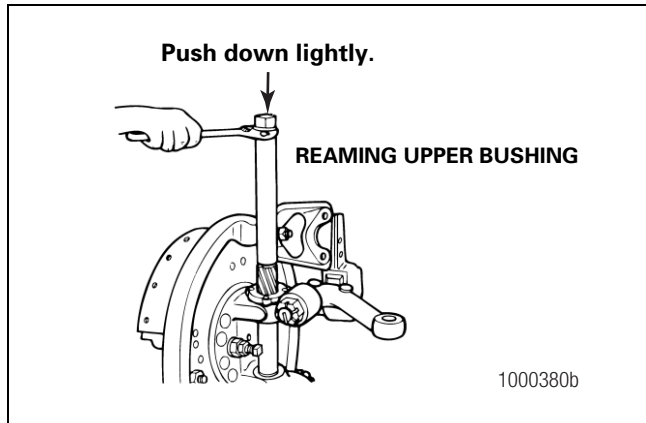
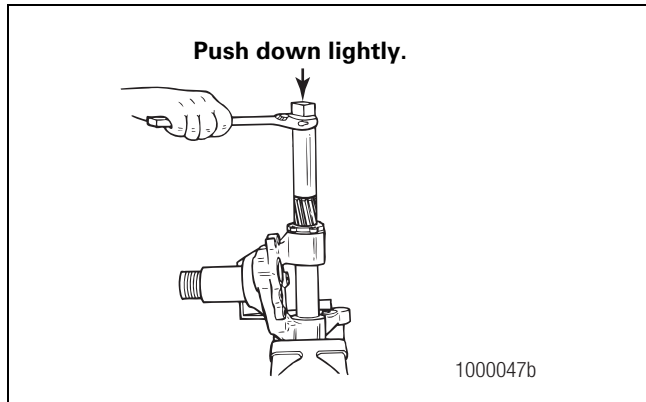
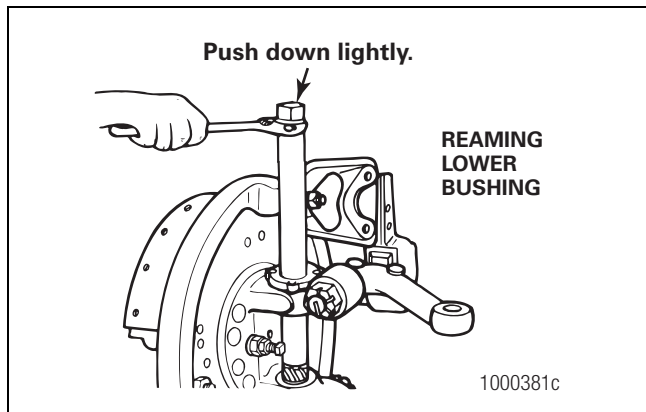
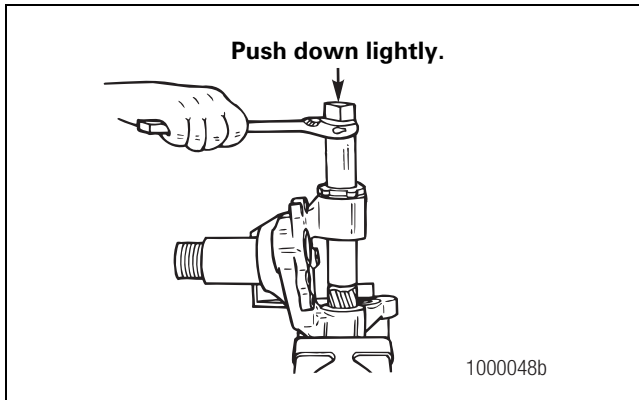

Figure 4
Figure 5
Figure 6
Figure 7
- Use a reamer to finish the bushings. Do not use a burnishing bar or burnishing balls. You must finish the bushings to the diameter indicated in Table B. The upper and lower bushings must align with each other to within ± 0.001 -inch (± 0.025 mm). Figure 4, Figure 5, Figure 6 and Figure 7.